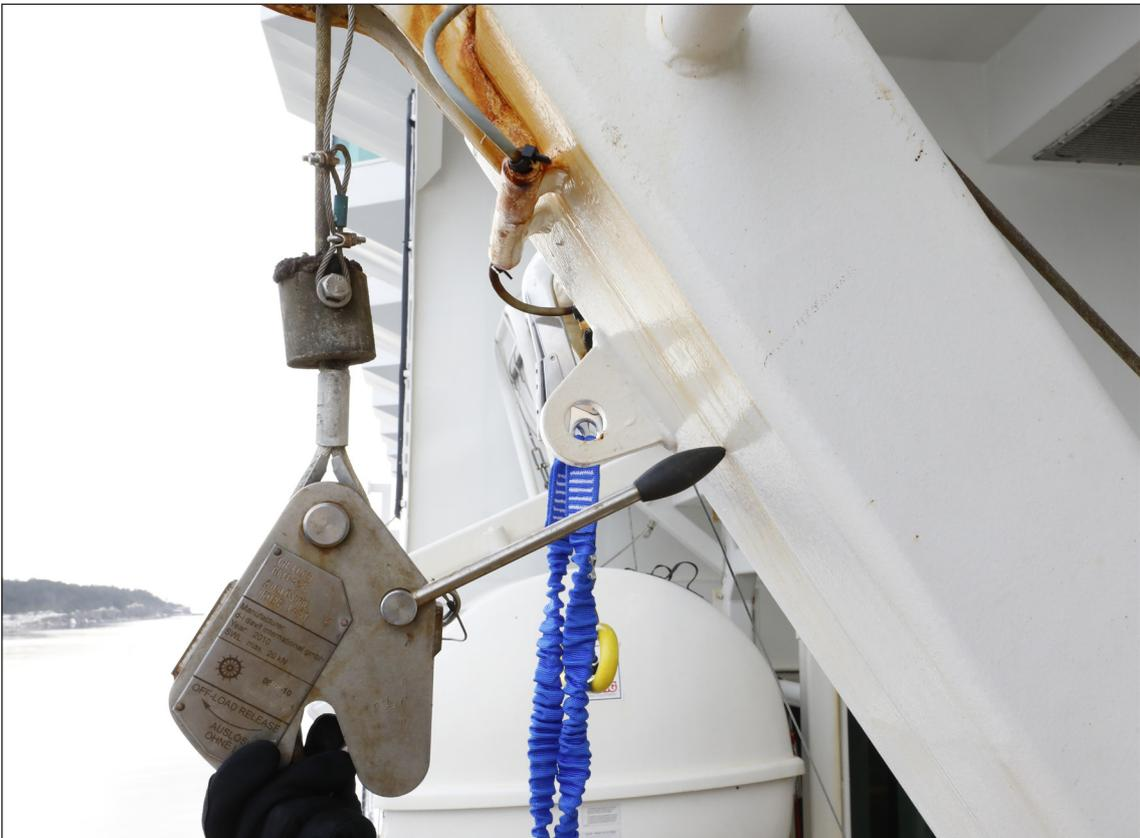

Figure 14: Release hook with the lever pointing upwards (correct setting)
3) The information gathered indicates that, at times, the hook was attached to the boat's suspension in such a way that the release lever pointed downwards (figure 13) and not upwards (figure 14). The correct setting of the lever was upwards. The incorrect fitting of the hook, with the lever downwards, prevented the inadvertent release of the hook because the lever could not come into contact with the davit. However, in that case the emergency release ("On-load release") would not work.